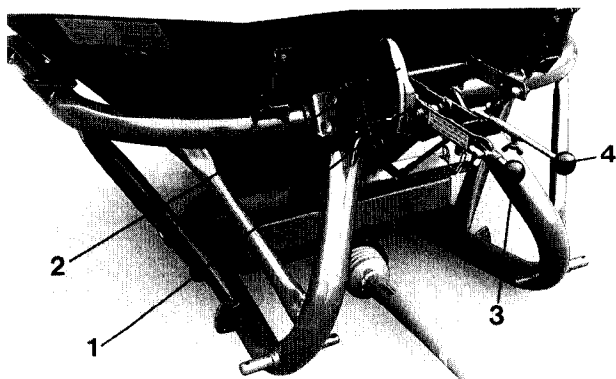
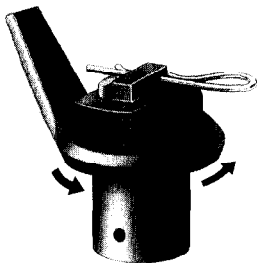
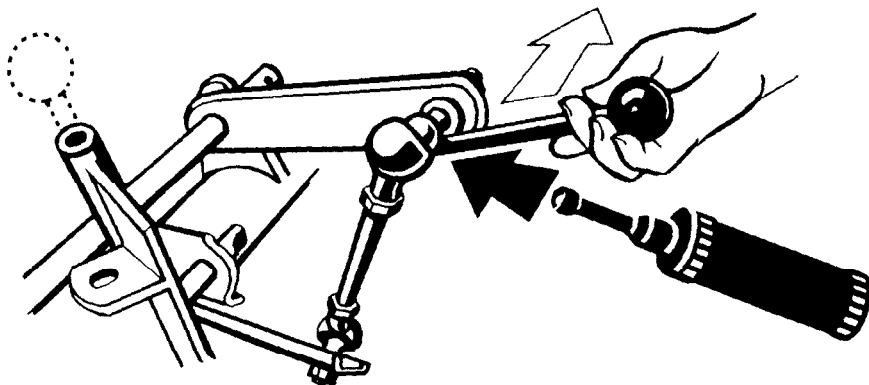

Fig. 2
Fig. 4
Fig. 7
When adjusting the handles take care that both extension handles (Fig. 2/3 and 2/4) lie on the stop (Fig. 2/1) of the scale (Fig. 2/2).
In the direction of forward travel, the right-hand extension handle (Fig. 2/3) should be pulled out fully, so that both extension handles (Fig. 2/3 and 2/4) can be operated independently if required. In the side of the hopper not required for spreading the stirrer head (Fig. 4) should be removed (Fig. 5) or covered with the hopper insert (optional equipment).
- 4.4 Ensure that the **4 ball joints** of the control lever (Fig. 2/3 or 2/4) are loosened from time to time, **cleaned and greased** (see Fig. 7, use extension of side lever as shown on the sticker on the machine).